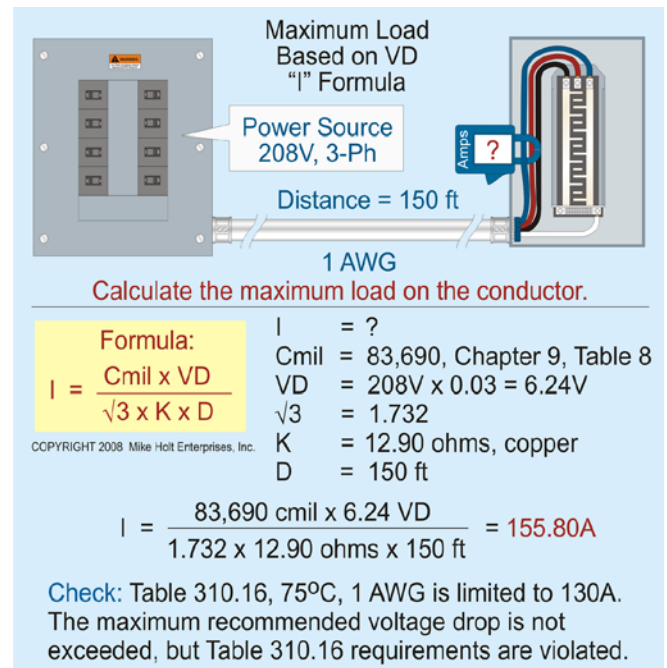

Figure 8-26
**Question:** What is the maximum recommended load that should be placed on 1 AWG copper conductors in an aluminum raceway to a panelboard located 150 ft from a 208V, three-phase power source so the NEC recommendation for voltage drop isn't exceeded? **Figure 8-26**